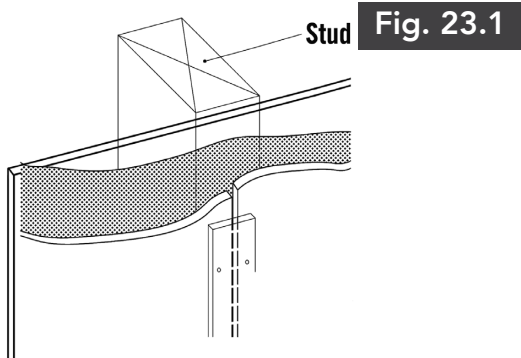

Fig. 23.1
- Cover the joint with a minimum 1-1/2" width batten strip. The batten strip may be fiber cement, wood, or PVC material. Nichiha offers **NichiTrim Battens** (2-1/2" wide). (*Fig. 23.1, 23.2*). Caulk the vertical edge between the batten strip and NichiPanel.